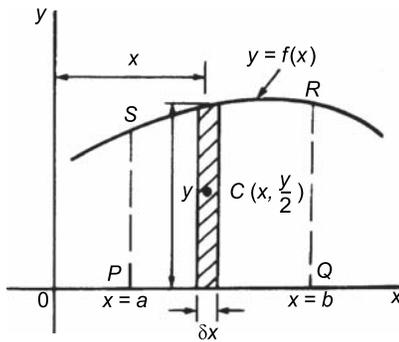

Figure 8.2
- (i) Figure 8.2 shows an area  $PQRS$  bounded by the curve  $y = f(x)$ , the  $x$ -axis and ordinates  $x = a$  and  $x = b$ . Let this area be divided into a large number of strips, each of width  $\delta x$ . A typical strip is shown shaded drawn at point  $(x, y)$  on  $f(x)$ . The area of the strip is approximately rectangular and is given by  $y\delta x$ . The centroid,  $C$ , has coordinates  $\left(x, \frac{y}{2}\right)$